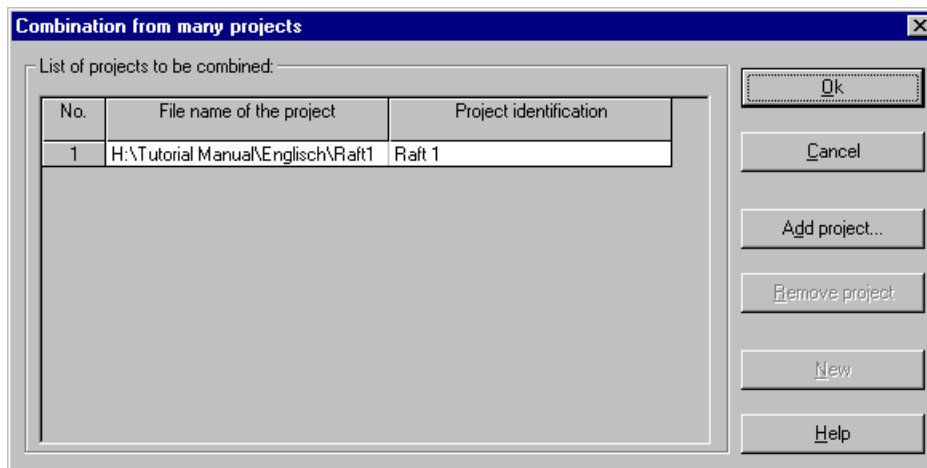

Figure 3-48 "Combination from many projects" list box
- Choose "Combination from many projects" command from "File" menu of *ELPLA-Section*. The following list box in Figure 3-48 appears. *ELPLA-Section* automatically considers the project "Raft 1" in the list of projects to be combined